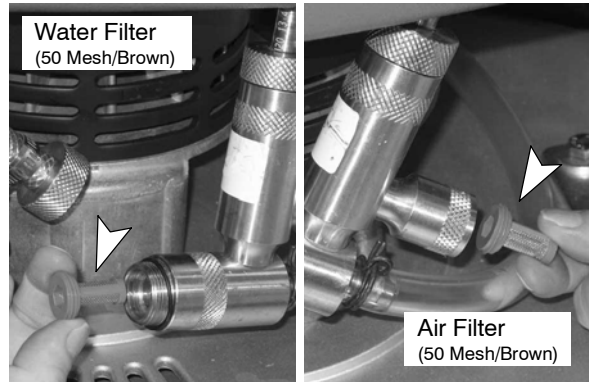

FIG. 55
2. Replace the water and air filter (Figure 55). An 8mm hex wrench is required to install new water filter.